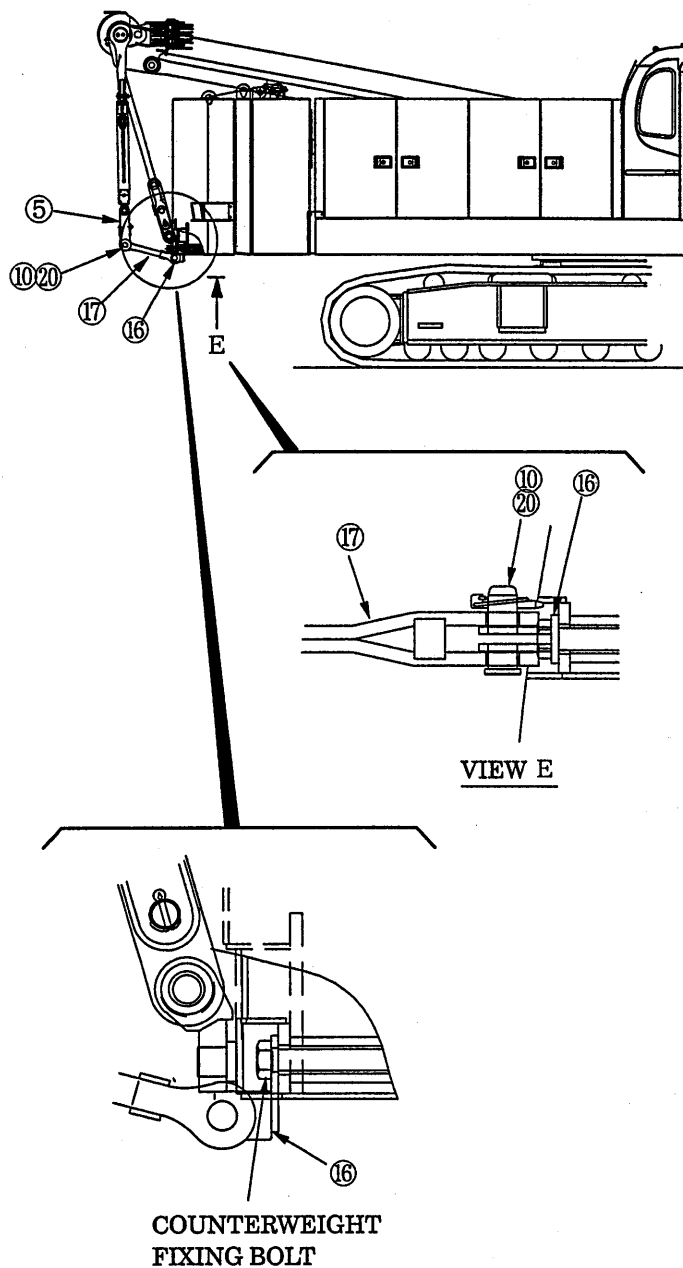

Fig 10-26
10.4.2 WHEN ALL THE THREE COUNTERWEIGHTS ARE EQUIPPED (SEE FIG. 10-26)
- (1) Lower the gantry to the lowest end (low gantry position) by gantry lifting cylinder operation.
- (2) Fix the link ⑰ to the link ⑤ with the pins ⑩ and ⑳. Fix the link ⑯ to the counterweight with the counterweight fixing bolt. Then, fully retract the right and left lift cylinders ① by operating the control box while keeping a balance of right and left (Fig. 10-26).